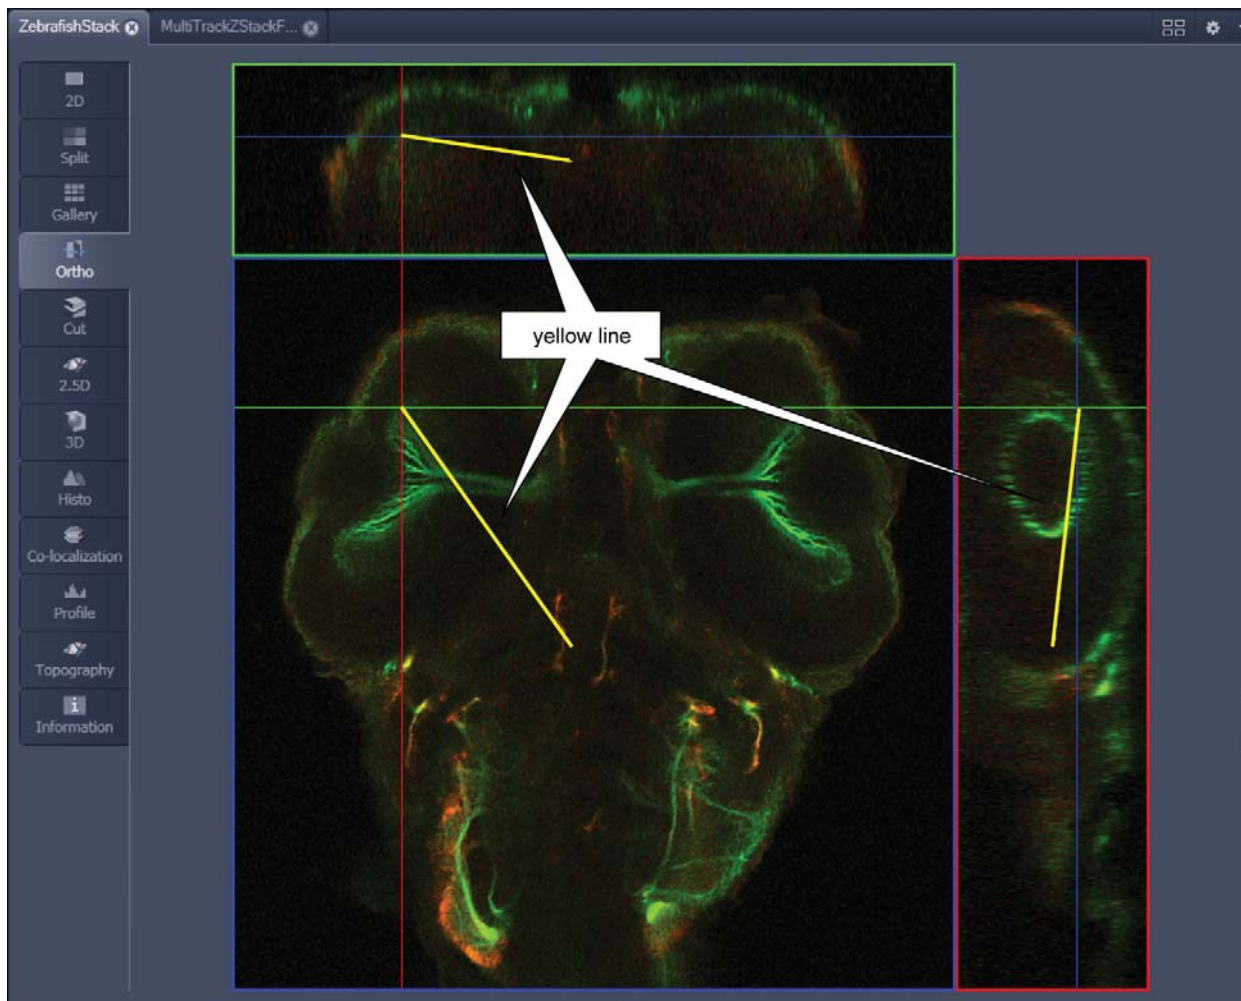

Fig. 4-166 Image Display – Ortho View - 3D Distance Measurement display
- The projections of the spatial distance are shown in the image planes by yellow lines (Fig. 4-166).